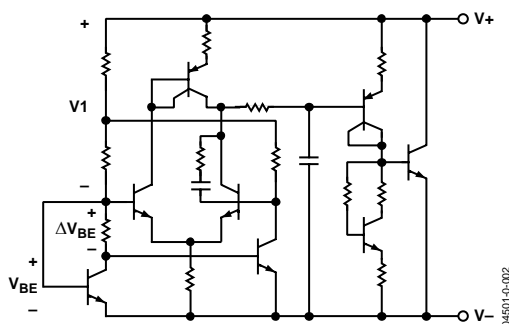

Figure 18. Circuit Schematic
The ADR520/ADR525/ADR530/ADR540/ADR550 use the band gap concept to produce a stable, low temperature coefficient voltage reference suitable for high accuracy data acquisition components and systems. The devices use the physical nature of a silicon transistor base-emitter voltage in the forward-biased operating region. All such transistors have approximately a $-2 \text{ mV}/^\circ\text{C}$ temperature coefficient (TC), making them unsuitable for direct use as a low temperature coefficient reference. Extrapolation of the temperature characteristic of any one of these devices to absolute zero (with the collector current proportional to the absolute temperature), however, reveals that its V_{BE} approaches approximately the silicon band gap voltage. Thus, if a voltage develops with an opposing temperature coefficient to sum the V_{BE} , a zero temperature coefficient reference results. The ADR5xx circuit shown in Figure 18 provides such a compensating voltage (V_1) by driving two transistors at different current densities and amplifying the resultant V_{BE} difference (ΔV_{BE} , which has a positive temperature coefficient). The sum of V_{BE} and V_1 provides a stable voltage reference over temperature.